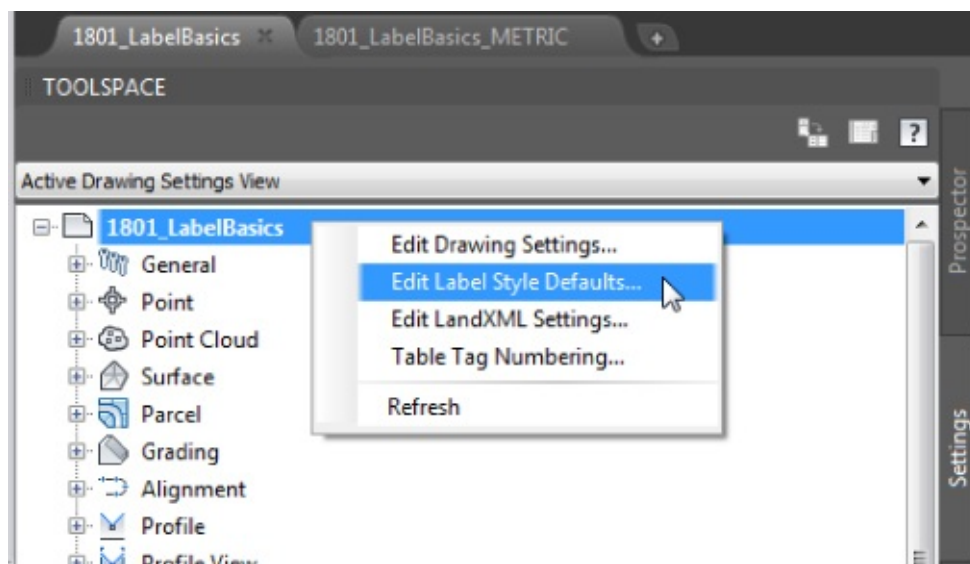

Figure 18.16 Accessing the global label settings
2. From the Settings tab of Toolspace, right-click the name of the drawing and select Edit Label Style Defaults, as shown in Figure 18.16.